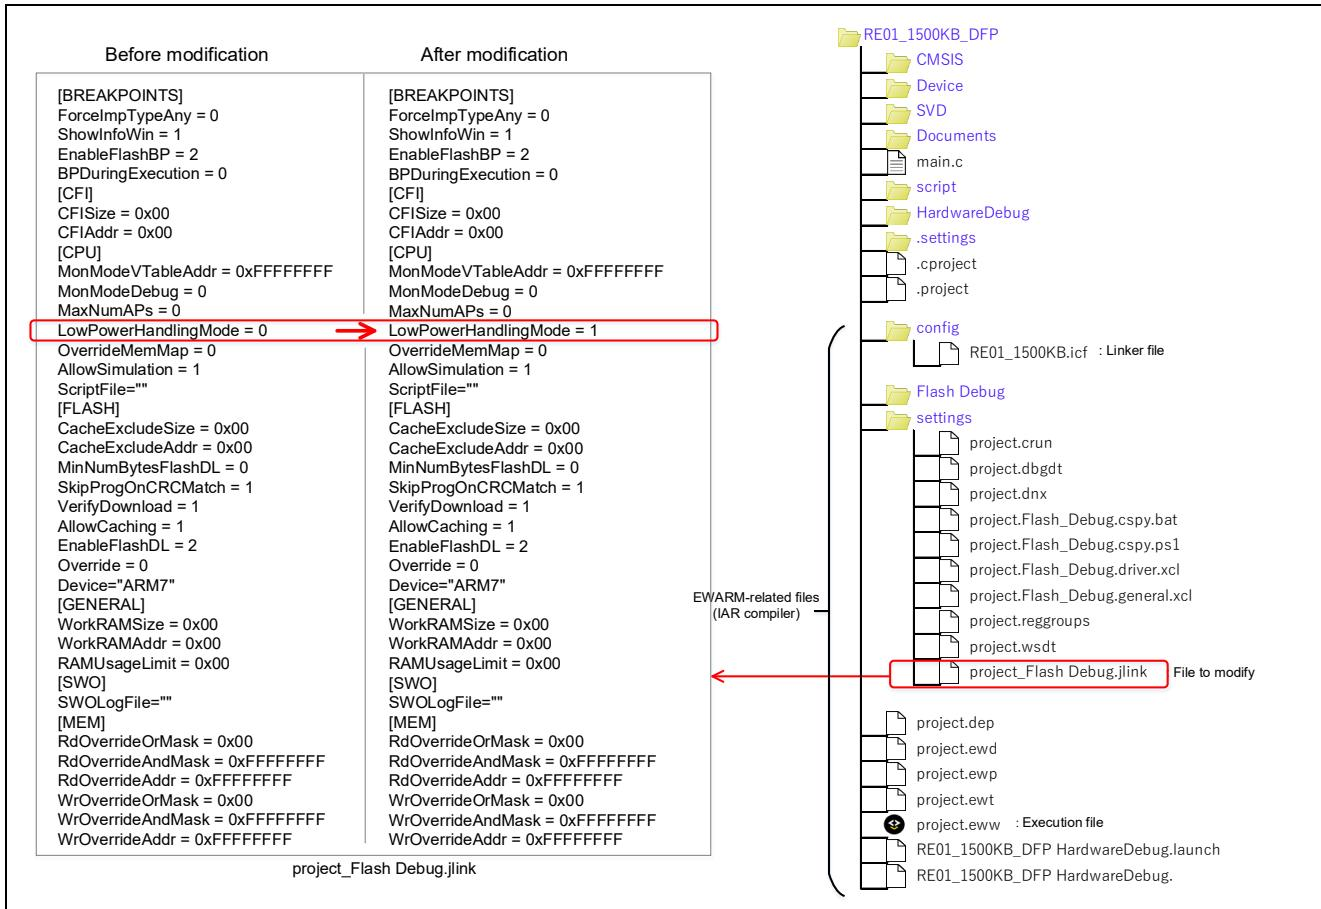

Figure 9-4 Example of Debugging Settings for Program Using Low Power Consumption Mode (EWARM)
- Use EWARM to open the project, and edit the file [project name]\_Flash Debug.jlink that is generated upon first starting up J-Link OB, referring to Figure 9-4.